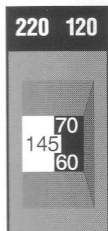

Figure 11
Since the picture format can be changed at any time in a Sinar Rollfilm Holder Zoom 2, it is not feasible to indicate the applicable number for each picture. For that reason, the film metering window (7) does not display the number of exposed pictures, but the remaining length (in cm) of unexposed film (Figure 11).